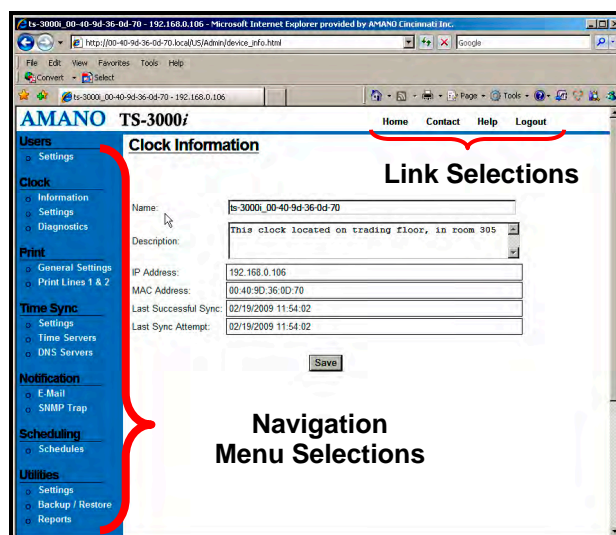

Figure 3-5. TS-3000i Web Clock Homepage.
If this is not your first time logging into the clock, enter your case-sensitive Username (maximum = 20 characters) and your Password (maximum = 15 characters), then click on the **Login** button and the TS-3000i Web **Clock Information** page will appear (see *Figure 3-5*). ONLY 1 user can be logged into a clock.
- Step 2. Click on the **Information** link under Clock, and the **Clock Information** will appear (see *Figure 3-5*). It is recommended to change the name to suit your nomenclature (default name = **ts-3000i_MAC**). See *Figure 3-4* for an example of a default clock name.